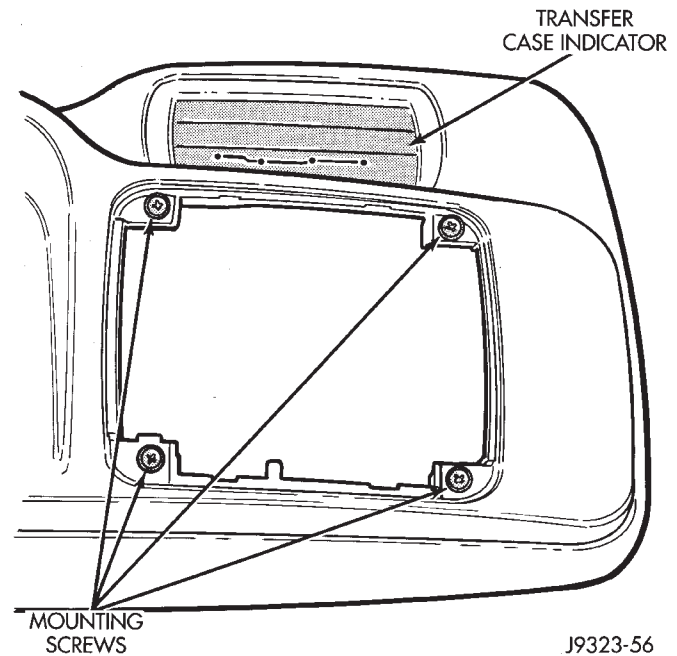

Fig. 10 Console Forward Mounting Screws
- (3) Remove transmission shift handle by pulling it up sharply.
- (4) Remove transmission shift bezel, there are 2 snap clips on each side.
- (5) Remove bulb from bezel.
- (6) Remove 4 screws under transmission shift bezel (Fig. 10).